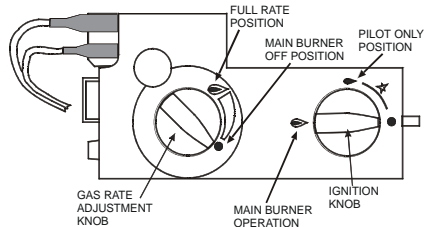

Figure 7 – Gas Valve
2. With gas available at the valve press the IGNITION KNOB in and turn it anticlockwise to the pilot flame position (see **Figure 7**). A click of the piezo igniter will be heard and a spark will appear at the electrode. At the same time the gas will flow to the pilot burner and should be ignited by the spark. Repeat the procedure until the pilot flame is established.
5. **Turn the IGNITION KNOB anticlockwise to the Main Burner Operation position as shown in Figure 7.**